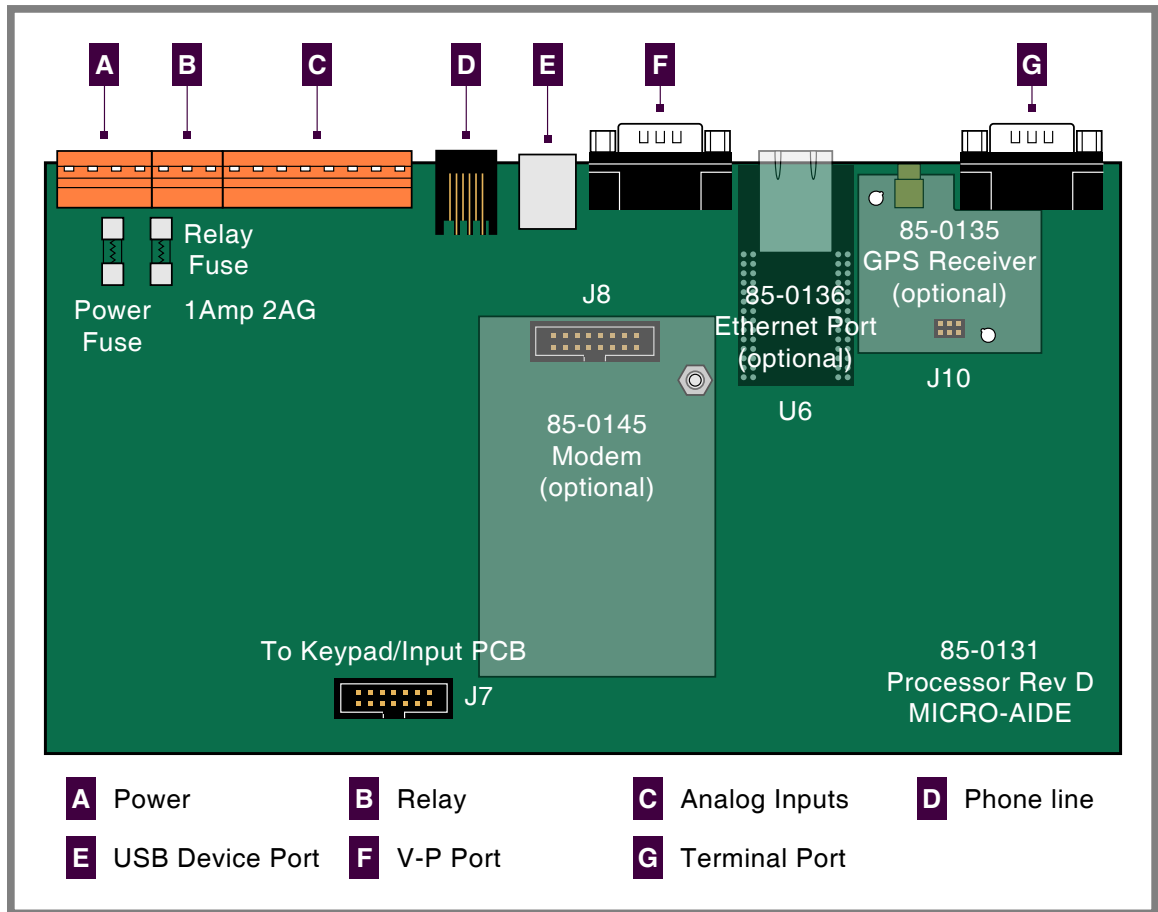

Figure 5: Processor PCB
There are two fuses mounted on the Processor PCB. The fuses are designed to protect the input power source and the contacts of the output relay. Each are rated at 1 A and conform to the 2AG size standard. Before replacing a fuse the cause of the blown fuse should be ascertained and cleared if possible. The fuses are illustrated in Figure 5 on page 75.
Generally, the GPS Receiver is ordered at the time the logger is purchased and is pre-installed at the factory. If the receiver was not previously ordered, it can be installed by the user. To install the receiver follow the steps listed in the following. The GPS Receiver PCB is illustrated in Figure 5 on page 75.
3. Locate the 6-pin female socket labeled "J10" near the top-right edge of the Processor PCB. The socket is illustrated in Figure 5 on page 75.
Generally, the modem PCB is ordered at the time the logger is purchased and is pre-installed at the factory. If the modem was not previously ordered, it can be installed by the user. To install the modem follow the steps listed in the following. The modem is illustrated in Figure 5 on page 75.
2. Locate the 16-pin female socket labeled "J8" near the center of the Processor PCB. The socket is illustrated in Figure 5 on page 75.
3. Locate the 56-pin female socket labeled "U6" along the upper edge of the Processor PCB. The socket is illustrated in Figure 5 on page 75.